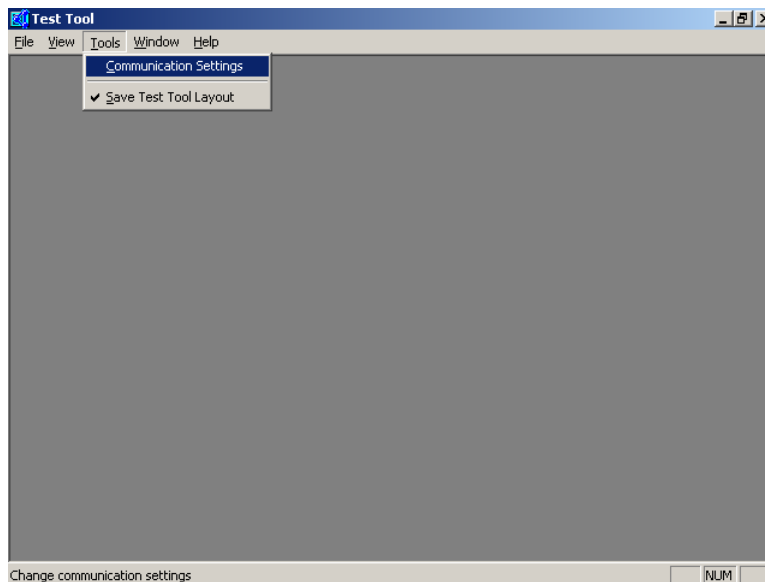

Figure 3-1. Test Tool Window (Configuration Settings Option)
4. To run the Test Tool utility from Windows, click on Start->Programs->Freescale Zigbee->Test Tool. The Test Tool main window appears as shown in Figure 3-1.
5. To setup the board connection, from the toolbar, click on Tools->Communications Settings, as shown in Figure 3-1.